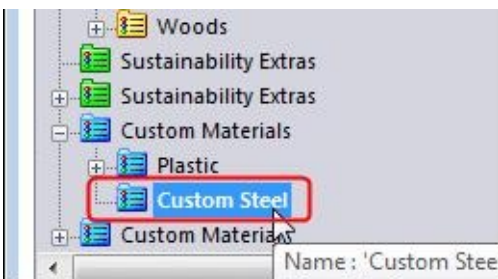

Figure-6. New category added
- Right-click on the **Custom Materials** category and select the **New Category** option to add a new sub-category in it. Specify the desired name; refer to Figure-6.